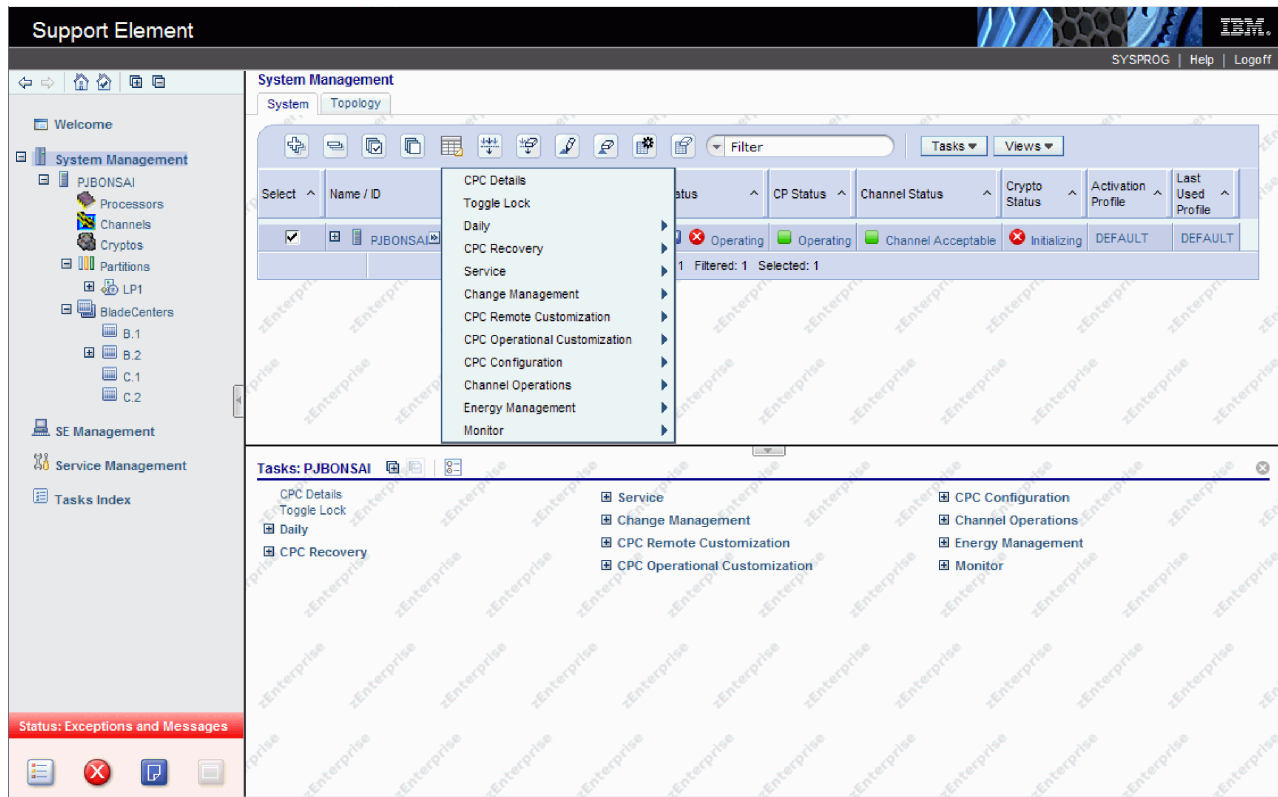

Figure 12. Context menu
- Click the button and the task groups menu is displayed for that particular object, as shown in Figure 12 on page 19.